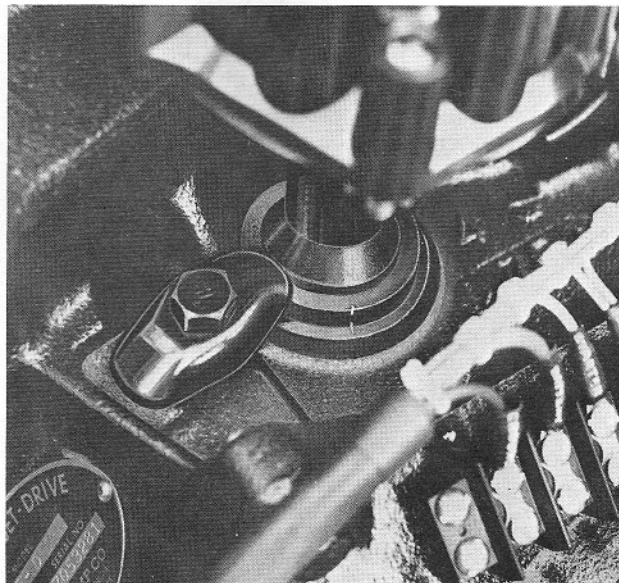

Figure 18
5. Mark position of distributor casting in relation to engine block by marking base of distributor at any convenient point and marking block in line with mark on distributor (Figure 18).